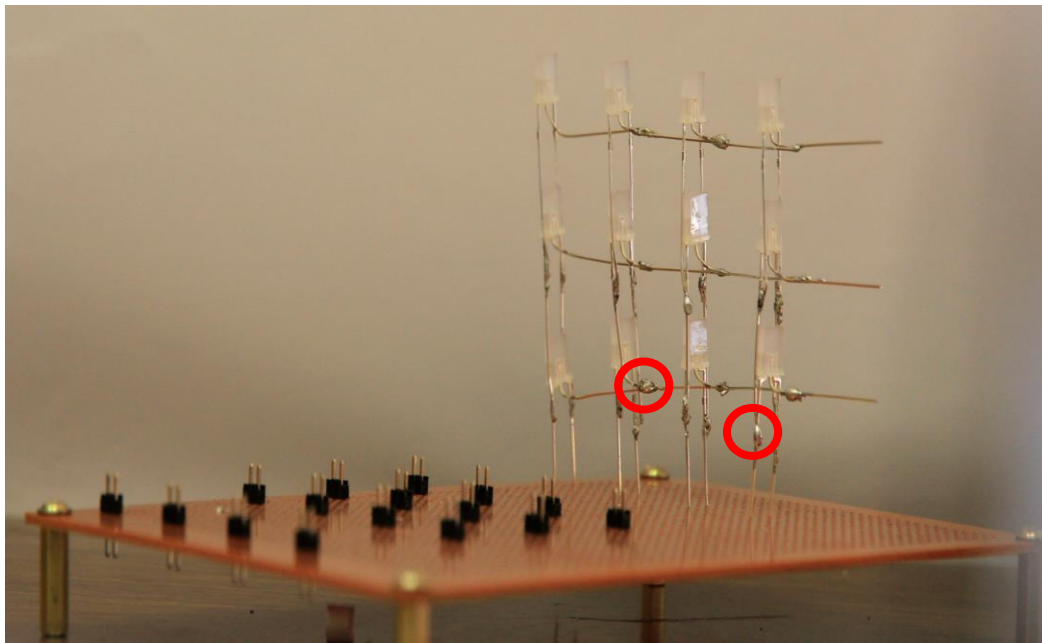

Figure 3: An LED column
5. Once the outer pins on one side are connected to each other, turn the whole structure to the right and begin soldering the outer pins on the other side. Once finished, you should get a solid structure just like the one in Figure 3.